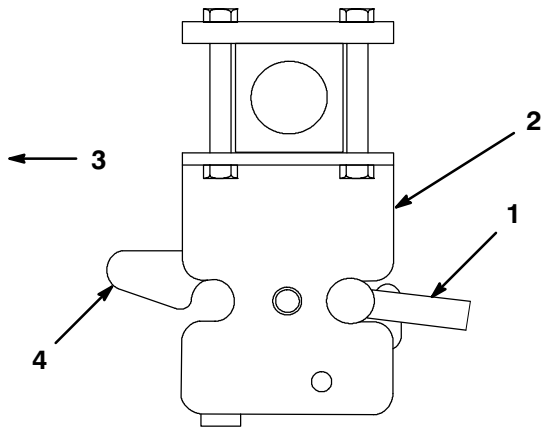

Figure 14
3. Press on the latches at the rear until they lock the blade frame in place (Fig. 14).